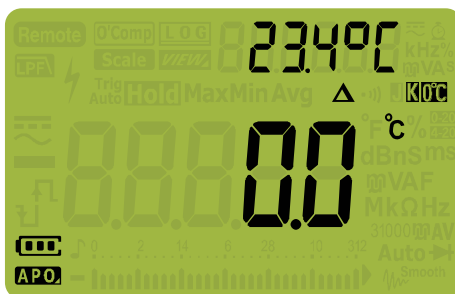

Figure 2-29 Temperature measurement without ambient compensation
- 1 To measure temperature, position the rotary switch to  and press  once. Set up your multimeter as shown in Figure 2-29.